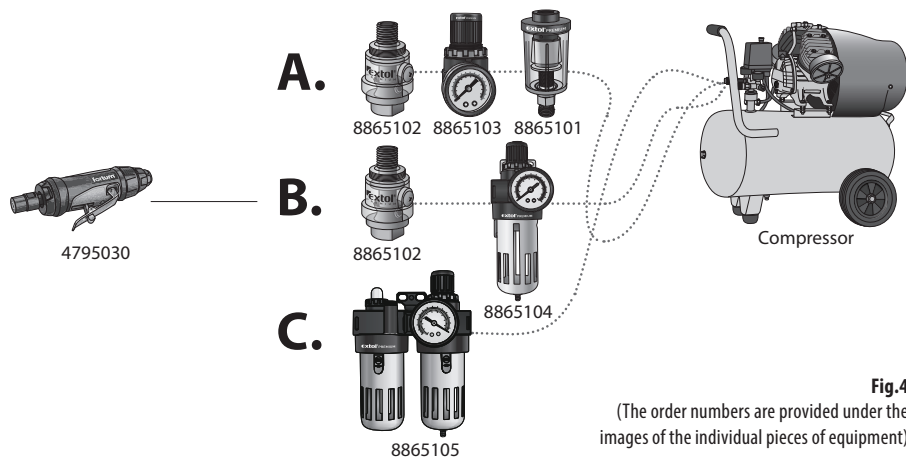

Fig.4
Equipment order number (fig.4)	Description of equipment (treatment units)
- The air grinder is powered by compressed air that must be free of moisture-condensate and must contain a pneumatic oil additive. For this purpose, there is peripheral equipment pictured and described in the diagram on fig. 4 below, which must be installed in front of the air flowing into the grinder in the provided order.
Order number of product (fig.4)	Description of equipment (treatment units)
POSSIBLE METHODS OF CONNECTION (SEE DIAGRAM IN FIG. 4)
- The order of the treatment equipment in the diagram in fig.4 must be maintained during connection.